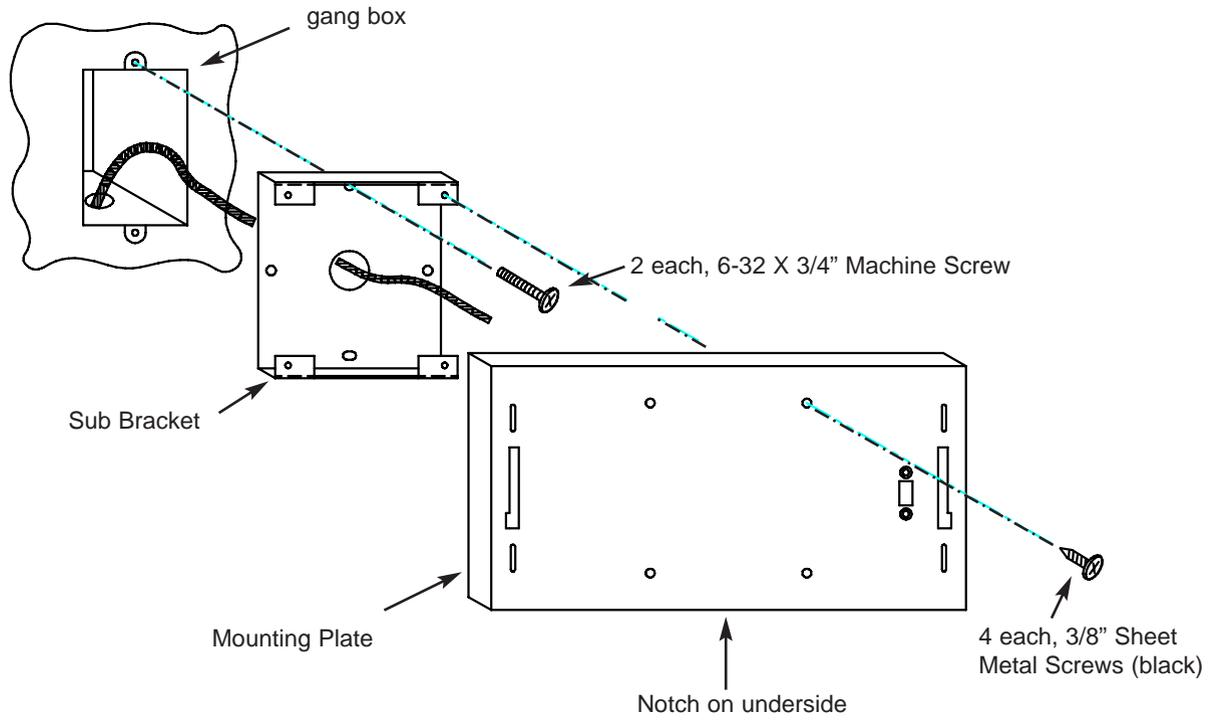

Figure 1
Gang-box mounting: Position the sub-bracket as shown in Figure 1. Route the cable through the large hole in the sub bracket and use two (2) 6-32 X 3/4" machine screws to attach the sub bracket to the gang box.
Surface mounting: Position the sub bracket against the wall in the desired mounting location (see Figure 1 for the correct orientation of the sub bracket). Make sure that the sub bracket is level and mark the location of the 4 mounting holes in the sub bracket. Install the 4 wall anchors in these locations and mount the sub bracket. Fish the cable through the large hole in the sub bracket if in-wall wiring is used. If using surface-mounted cable, make sure the cable will line up with the notch in the mounting plate and is secured to the wall.
Using the 4 black sheet metal screws (3/8"), attach the mounting plate to the sub bracket (see Figure 1). Check that the mounting plate is level. There is play in both the sub bracket holes and mounting plate holes to allow some leveling adjustment. Snap the ProMatrix control panel onto the wall mount assembly.